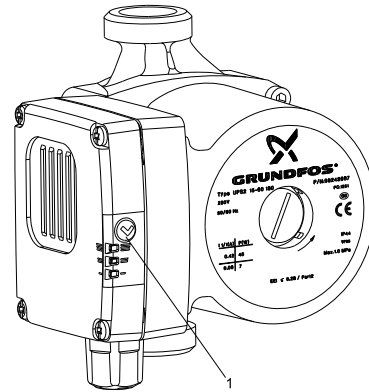

Fig. 7 Push-button position
The UPS2 has a push-button (pos. 1) for selection of pump setting and light fields for indication of the selected pump setting. See fig. 7.